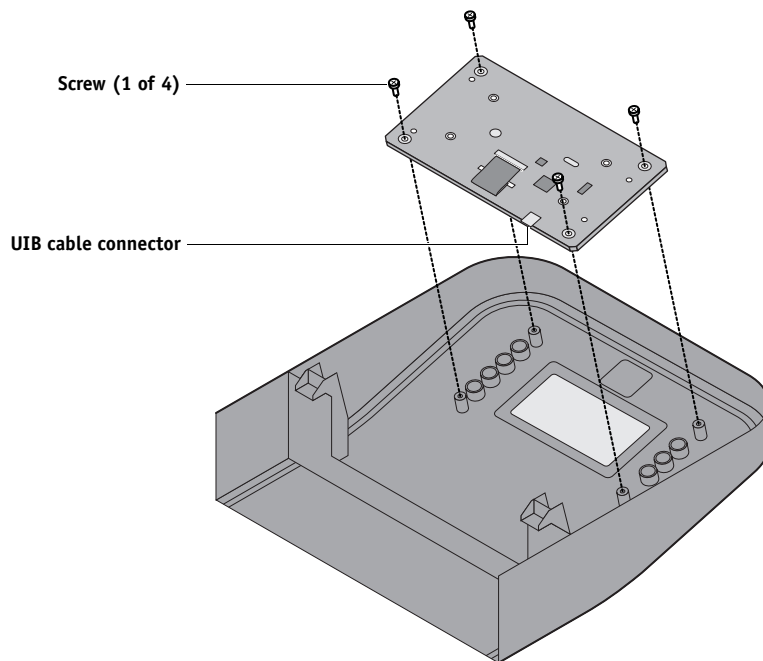

FIGURE 17: Removing/replacing the User Interface Board
2. **Attach the UIB cable to the connector on the back of the UIB (see Figure 17 on page 56).**